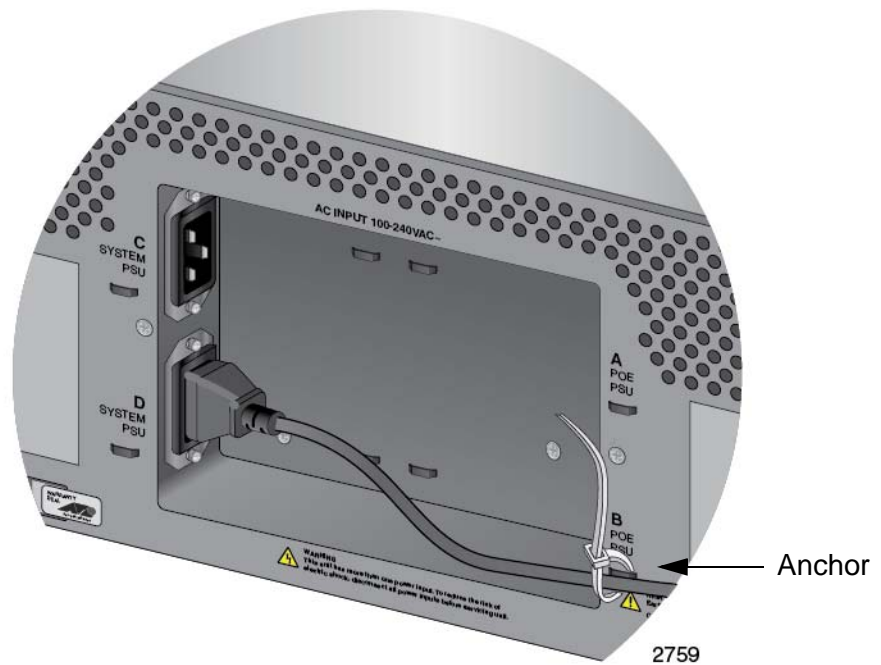

Figure 118. Securing the Power Cord for the AT-SBxPWRSYS1 or AT-SBxPWRSYS2 AC System Power Supply to an Anchor
3. Use the twist tie included with the power supply to secure the cord to an anchor on the chassis to protect it from being accidentally pulled out, as shown in Figure 118 on page 197.